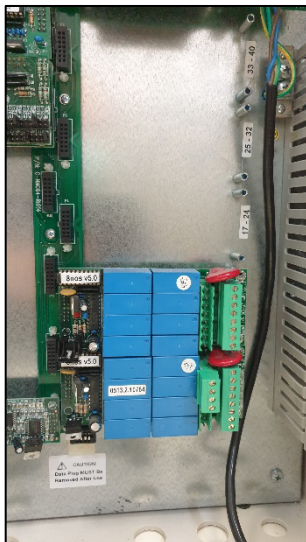

Figure 8: 24VAC Relays
- The Controller can have 24VAC local relays (for pumps, fertigation, filters, etc.). Figure 8 shows 16 local 24VAC outputs; remote outputs start from relay 17.